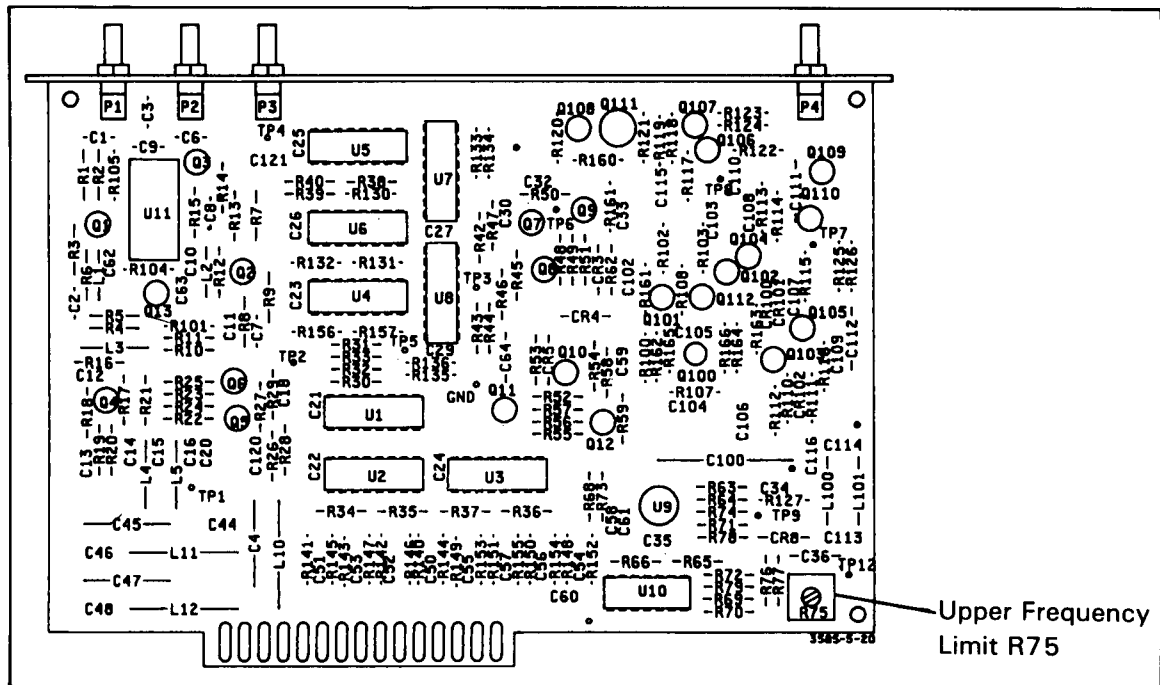

Figure 5-19. Step Phase Detector Board (A26)
s. With the cable at A23J1 still disconnected, adjust A26R75 so that the frequency counter reads $144\text{MHz} \pm 0.5\text{MHz}$ (see Figure 5-19).